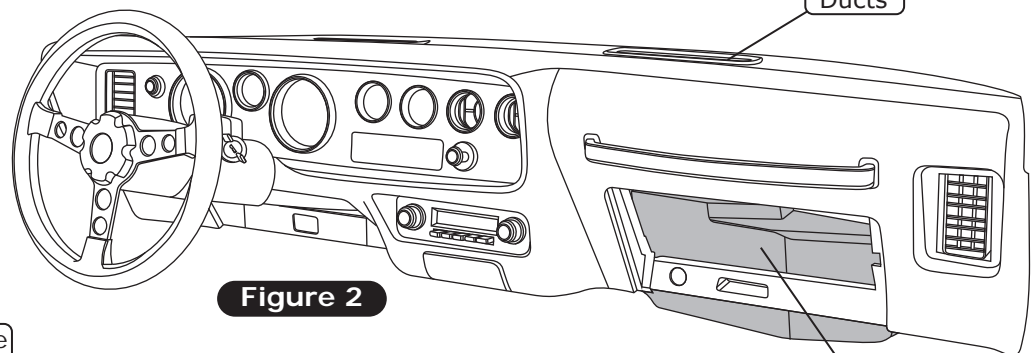

Figure 2
5. Remove the OEM heater assembly (discard) (See Figure 2, below).
7. Remove the (2) wires and grommets located on the firewall by the heater/evaporator assembly opening (discard).
8. Remove the OEM defrost ducts (discard) (See Figure 2, below).